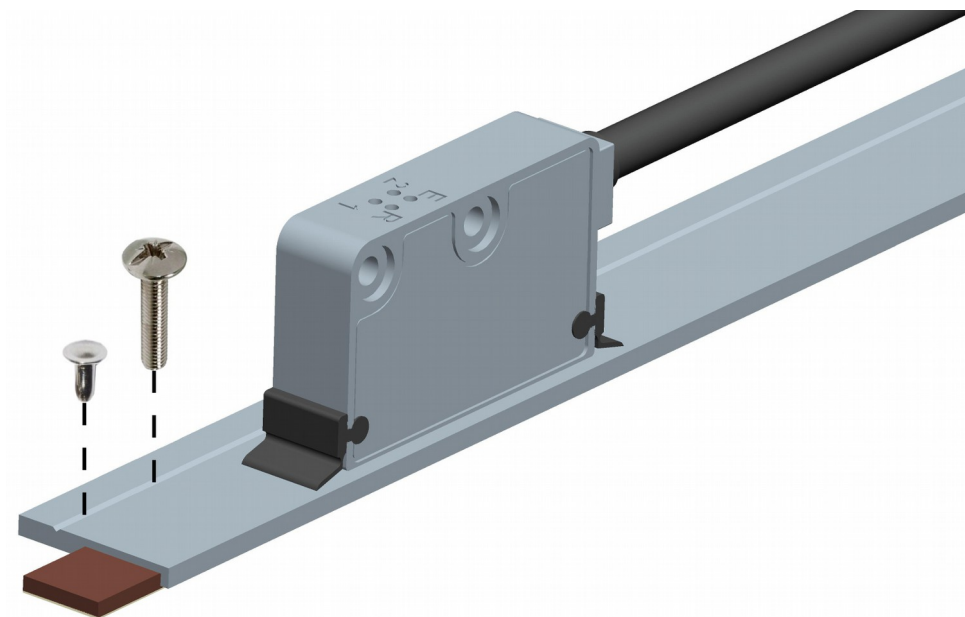

Figure 3 - Mounting the tape with PS1 profile
3.7.2 Mounting the tape with optional PS1 aluminium profile (Figure 3) For SMK and SME5 models only